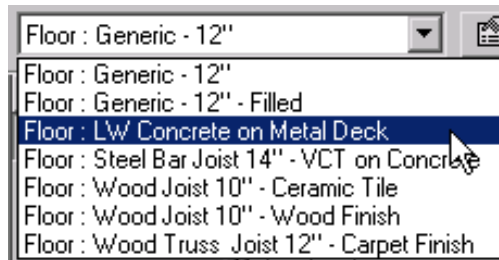

Figure 6-39 Selecting the floor type
6. In the **Element Properties** dialog box, click on the drop-down list for the **Type** parameter and select **LW Concrete on Metal Deck** as the floor type, as shown in Figure 6-39.